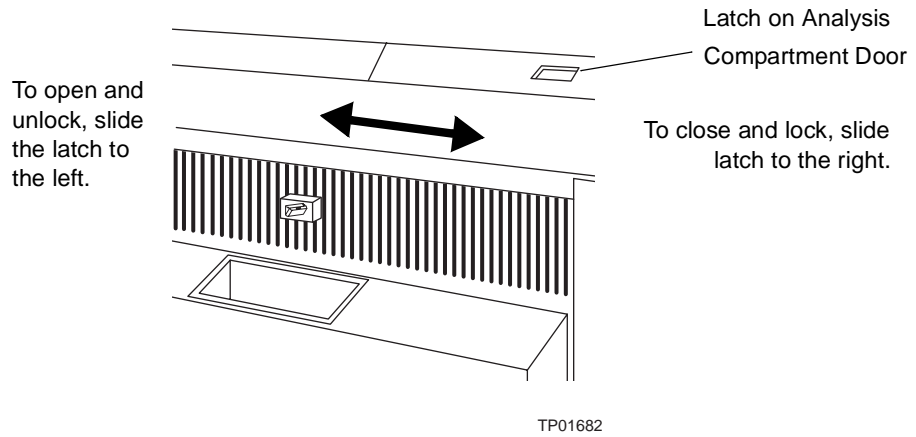

Figure 2-6 Opening the Analysis Compartment Door
4. Open the analysis compartment door by sliding the latch to the left, and then lift the door from its bottom edge with gloved hands (Figure 2-6).